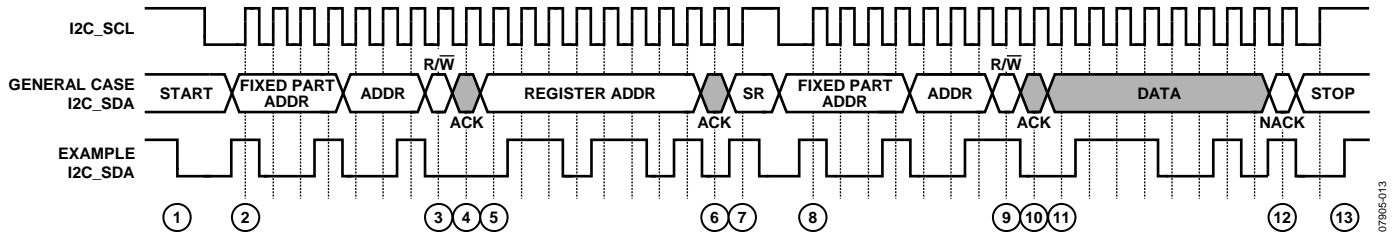

Figure 33. I2C Read Procedure
To read data from the **ADV3002** register set, an I2C master (such as a microcontroller) needs to send the appropriate control signals to the **ADV3002** slave device. The signals are controlled by the I2C master unless otherwise specified. For a diagram of the procedure, see Figure 33. The steps for a read procedure are as follows:
3. Send the write indicator bit (0).
7. Send a repeated start condition (SR) by holding the I2C\_SCL line high and pulling the I2C\_SDA line low.
9. Send the read indicator bit (1).
- a. Send a no acknowledge (NACK) followed by a stop condition (while holding the I2C\_SCL line high and pulling the SDA line high) and release control of the bus to end the transaction (shown in Figure 33).